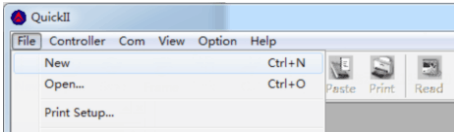

Fig 4.1
1. Click NEW option under the File menu or the  in the Tool Bar, as shown in Fig 4.1.